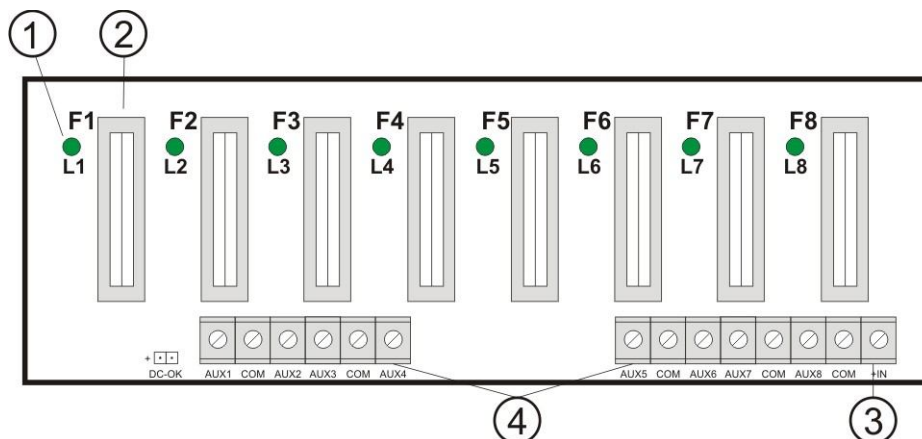

Fig.2. The view of the PSU's pcb.
**Table 1. Elements of the PSU pcb (see fig. 2).**